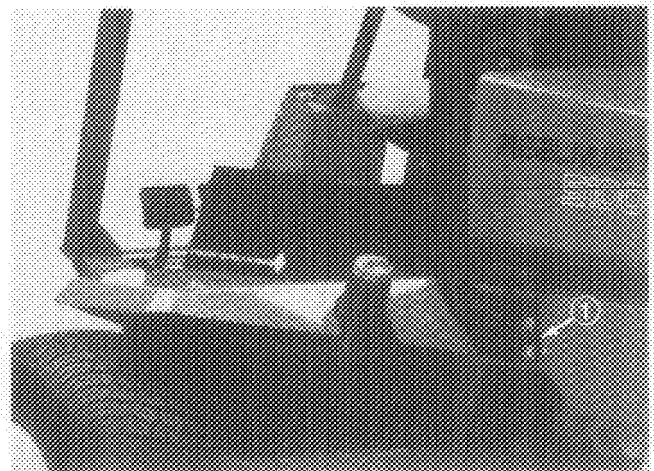

Figure 4
INSTALL ROLL BAR (Fig. 4–5) (Model 03504 only)
2. Secure each side of roll bar to frame with (3) 1/2 x 13 – 1–1/4" lg. capscrews, 1/2" flatwashers and 1/2" lockwashers (Fig. 4).